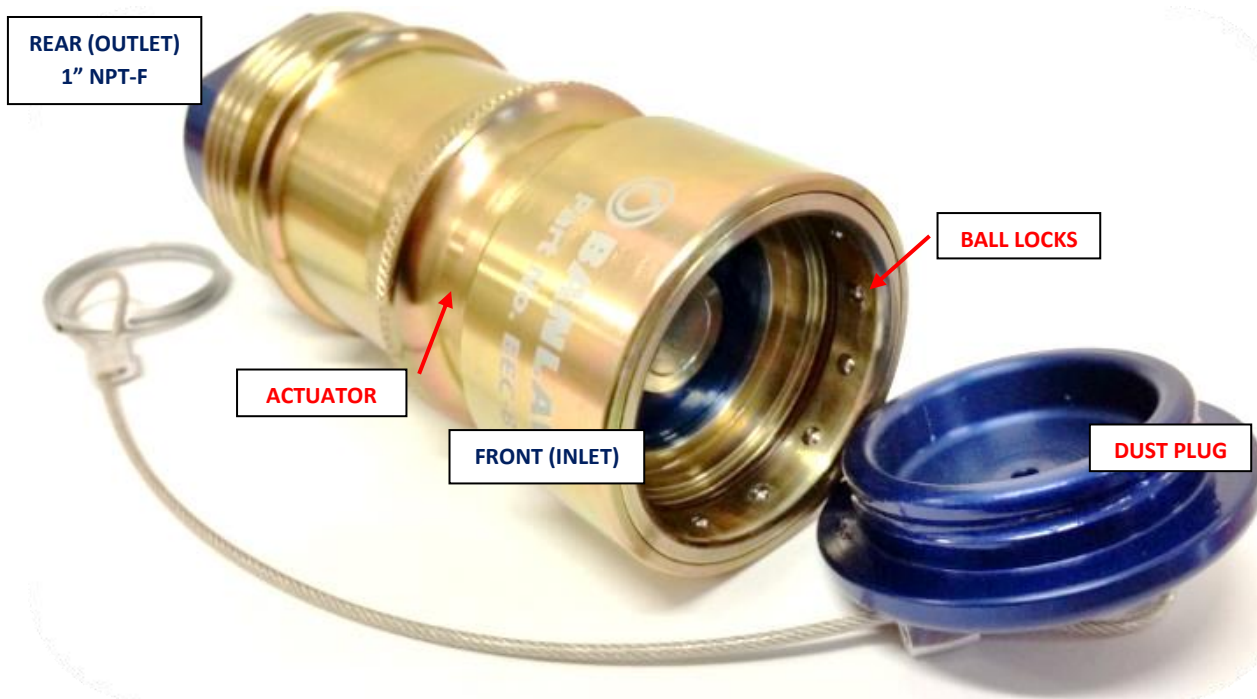

Figure 4 - Key Features
- **Internal Check Valve;** to prevent reverse flow, i.e. the flow of waste fluid back into its source – refer Figure 4. This normally-closed spring-biased check valve is actuated by differential fluid pressure across the valve.